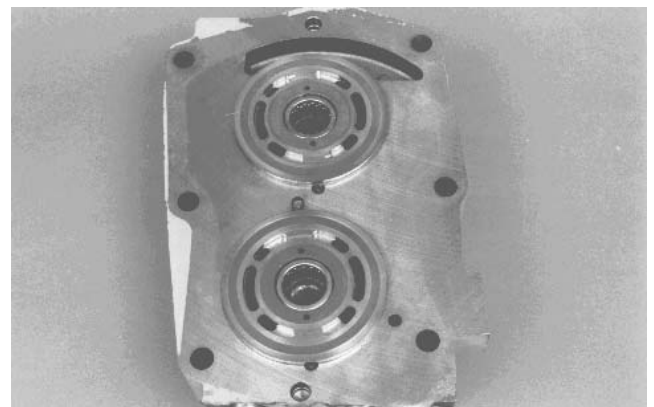

Figure 41
5. Carefully remove valve plates from center section. It may be necessary to pry valve plates off with a small screwdriver (Fig. 41).